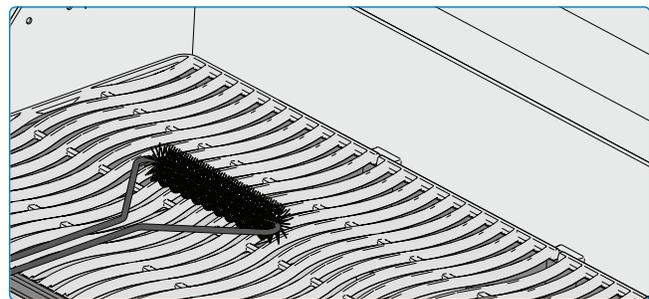

Fig. 19
- To clean, preheat the grill and use a wire brush to remove food residue (**Fig 19,20,21**).